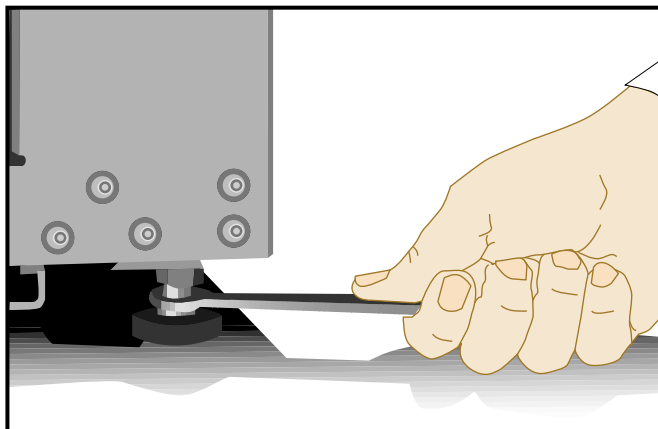

Figure 1-9 Leveling Bolts
3. Adjust the leveling bolts of rack 001, as shown in Figure 1-9, until the rack is level.